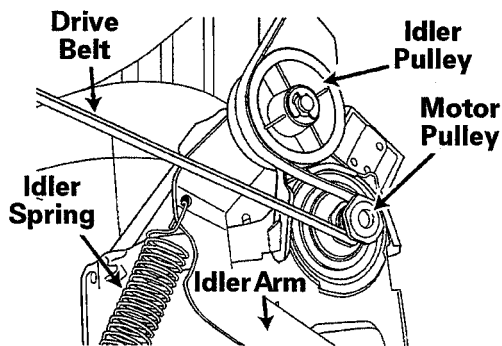

Figure 2-36
4. Insert left hand along side of tumbler at the 8 o'clock position. Insert right arm under tumbler (as close to blower as possible), *see Figure 2-36*.